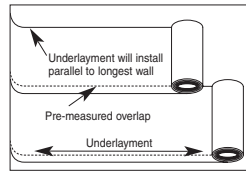

Figure 10
- The floating floor underlayment already has double-sided tape for ease of taping the pre-cut overlapping seams (Figure 10). If a non-adhesive underlayment is used, tape all seams with the included tape.